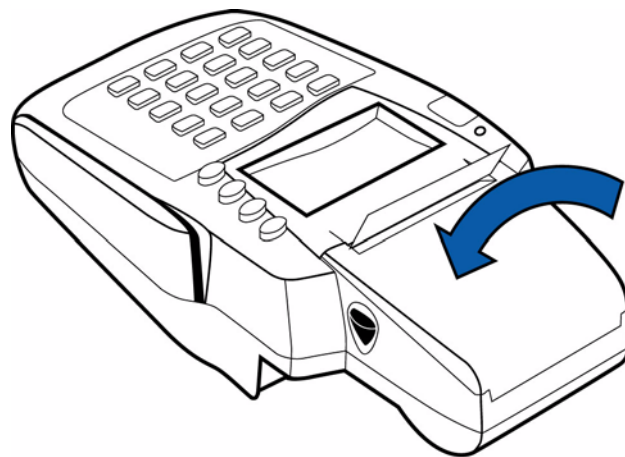

Figure 9 Closing Paper Roll Cover
- 8 Close the paper roll cover by gently pressing directly on the cover until it clicks shut. Allow a small amount of paper to extend outside the cover (see Figure 9).